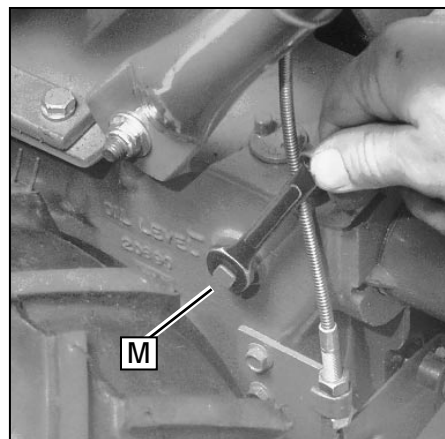

Figure 2-11: Gear oil level check plug.
2. Remove the oil level check plug (M, Figure 2-11) on the left-side of the transmission. (Due to dried paint on the plug threads, it may require some force to remove the plug the first time.) The gear oil level is correct if oil starts to flow out of the hole as the plug is removed. If so, securely reinstall the plug.
- (d) Reinstall and tighten securely the gear oil fill plug (M, Figure 2-11).